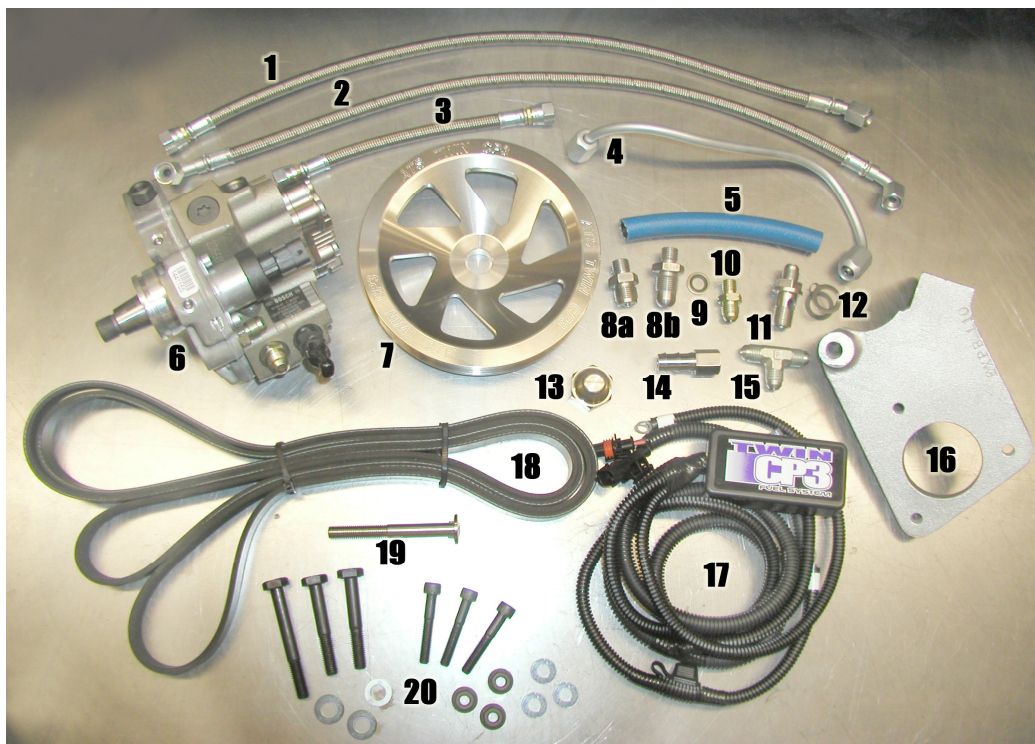
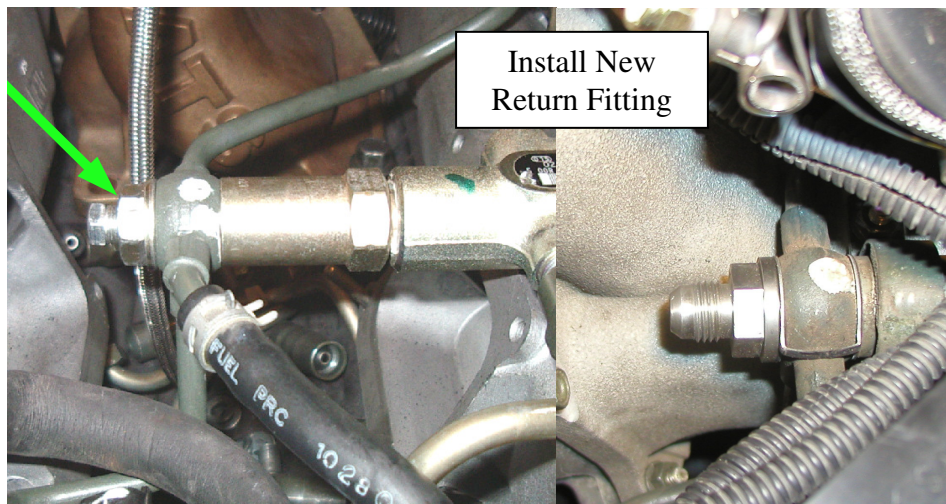

Figure 1: LB7 Twin CP3 Kit
Figure 15: Return Fitting Location
Thank you for purchasing the ATS Twin CP3 Kit. The picture below shows all the components included in the kit. Two rail fittings (8a. and 8b.) are shown in the picture. The 2001-2002 LB7 fuel rail requires fitting 8a. and the 2003-2004 LB7 fuel rail requires fitting 8b. Please check before beginning the installation to make sure all components are in the supplied LB7 Twin CP3 kit. Two ½" barbed to JIC-6 fittings (#14 in **Figure 1**) are provided in the kit for installation variations. The backside large idler pulley is not pictured.
15. Install the -6 supply fitting and seal (#9 and 10 in **Figure 1**) into the factory CP3 pump.
16. Route supplied 1/2" fuel hose from fuel filter housing to the supplied -6 tee using the provided 1/2" barbed to -6 fitting provided in the kit (#14 in **Figure 1**). Attach hose to fuel filter with existing fuel line clamp.
17. Remove fuel return banjo bolt from the top of the pressure relief valve (**Figure 15**) and install the return combination JIC-6 banjo bolt with the new seal provided in the kit (#11 and #12 in **Figure 1**).
20. Remove alternator bracket bolt shown in **figure 18** and install the 10mm x 1.5 x 80mm button head bolt (#19 in **Figure 1**) into alternator bracket. Do not over tighten.